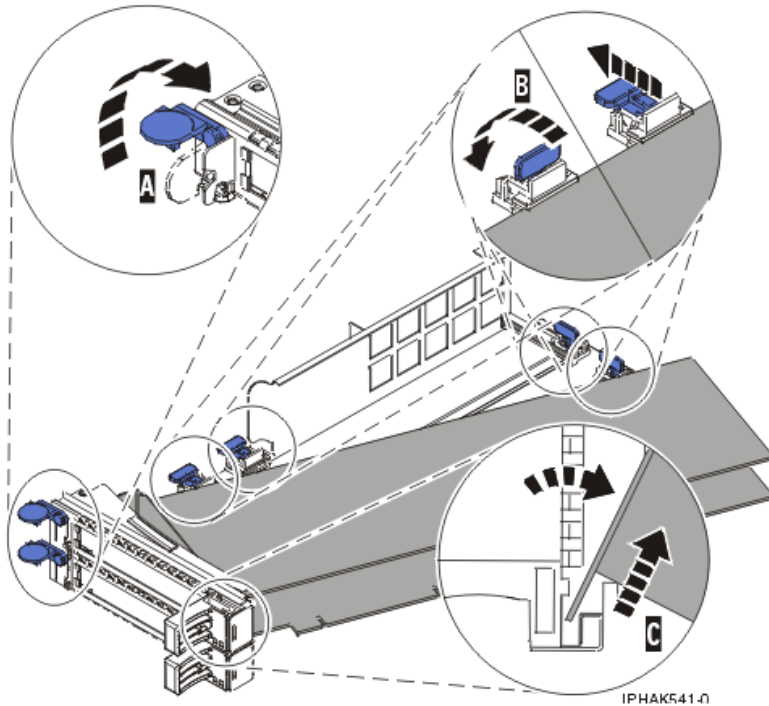
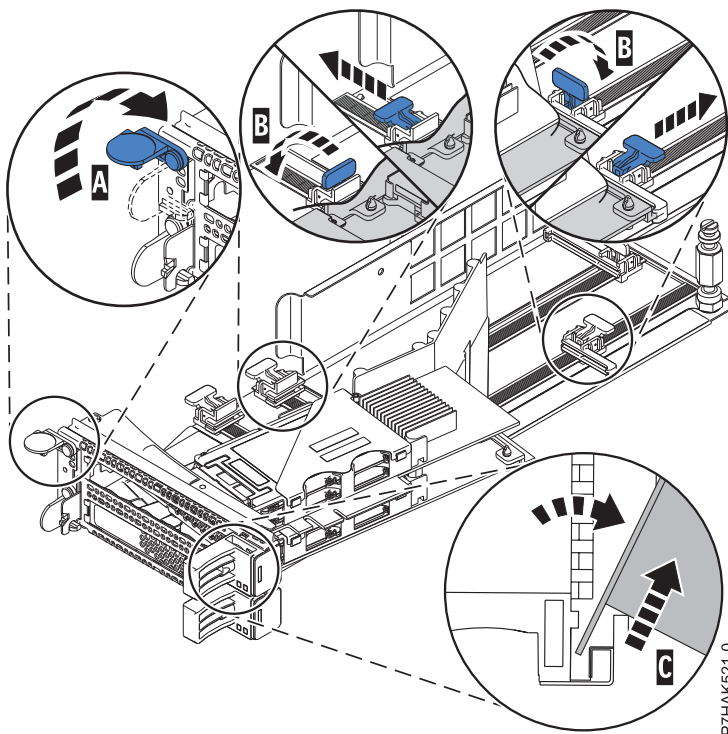

Figure 46. Adapter removed from the PCI adapter cassette
Figure 47. PCIe RAID and SSD SAS adapter removed from the PCI adapter cassette
- d. Unscrew pivot pin (C) and put it in a safe place
- a. Unlock the adapter retainers (B) by rotating the retainer clips (A) into the horizontal position. See Figure 46 on page 64. If you are removing a PCIe RAID and SSD SAS adapter, see Figure 47 on page 64.